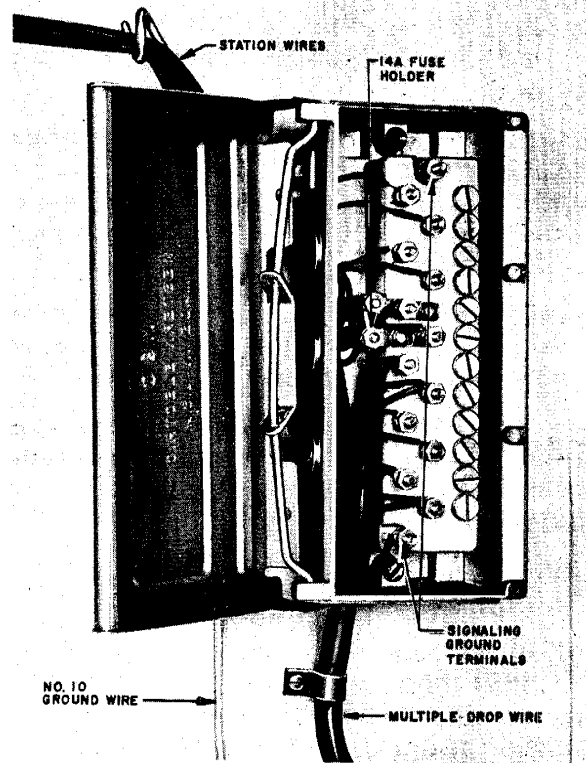
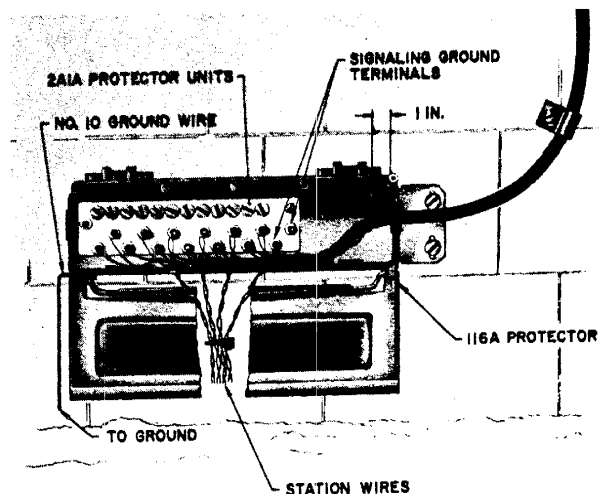

Fig. 4 — Wiring of 116C Protector
Fig. 5 - Wiring of 116A Protector
**8.01** The 116C protector, shown in Fig. 4, consists of a metal housing equipped with a hinged metal cover and containing twelve No.
**8.03** Wiring of 116C protector is shown in Fig. 4.
**8.05** The 116C protector (Fig. 4) and the 116A protector (Fig. 5) are shown served by a multiple drop wire, but they can also be served by separate drop wires.
**8.08** Wiring of 116A protector is illustrated in Fig. 5.